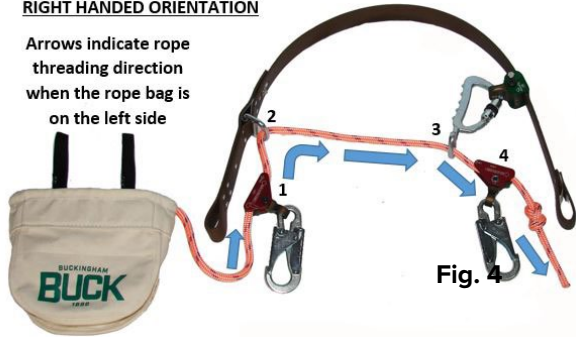

Fig. 4
Note: Ensure rope is properly threaded into the BuckGrabs (LAD) (Ref. Fig. 4 or 5), the 'POLE' arrows shown on its body face towards the pole and the attached snaphook gates face outward (see Fig. 4a -5b)
- The SuperSqueeze Rescue Trainer can be used in either a right or left hand orientation. However, for proper rope replacement / rethreading, the rope bag must be placed on the same side of the Rescue Trainer as the D-ring (Fig. 4 right handed orientation), (Fig. 5 left handed orientation).
- Properly feed the cut end of the rope through all applicable hardware (Fig. 4 or 5) and in the same direction as the rope threading arrows etched on the frame (Fig. 4a - 5b as applicable).
- To re-thread complete unit with replacement rope, follow the rope threading arrows etched on frame and feed new rope through 1.) BuckGrab (LAD), 2.) D-ring, 3.) Serrated Rotosnap stirrup and 4.) 2nd. BuckGrab (LAD) as shown in Fig. 4 or 5. Ensure the BuckGrabs (LAD) are properly oriented with the arrow on the body facing towards the pole (Fig. 4b & 5b) and snap hooks gates face outward (Fig. 4 & 5).
- Ensure a figure eight stopper knot is tied at each end of the rope (Fig. 4, 5 & 6).